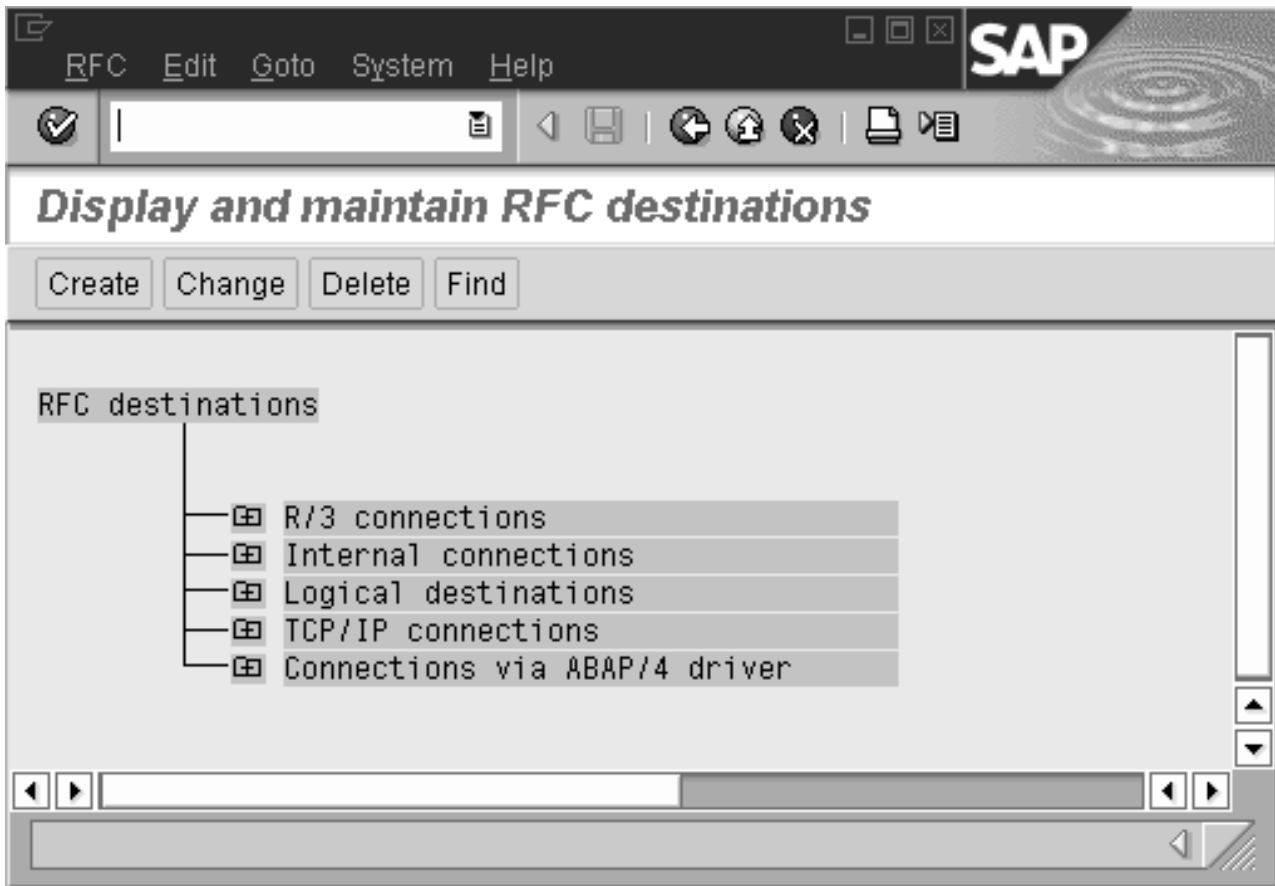

Figure 45. Display and maintain RFC destinations window
3. From the Display and Maintain RFC Destinations window (Figure 45 on page 108), click on the **Create** button.
4. From the RFC Destination window shown in Figure 45, you must: